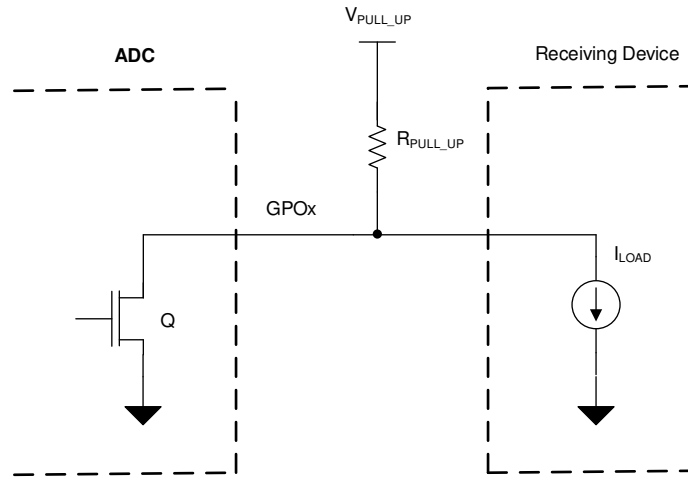

图 49. Digital Open-Drain Output
The channels of the TLA2518 can be configured as digital open-drain outputs supporting an output voltage up to 5.5 V. An open-drain output, as shown in 图 49, consists of an internal FET (Q) connected to ground. The output is idle when not driven by the device, which means Q is off and the pullup resistor, R_{PULL_UP} , connects the GPOx node to the desired output voltage. The output voltage can range anywhere up to 5.5 V, depending on the external voltage that the GPIOx is pulled up to. When the device is driving the output, Q turns on, thus connecting the pullup resistor to ground and bringing the node voltage at GPOx low.